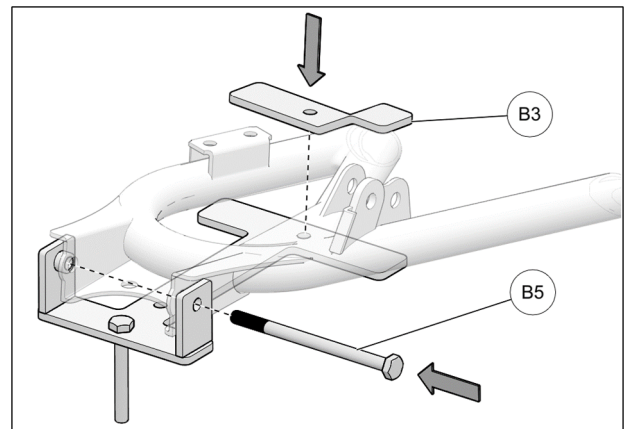

Fig. 8
- Insert the new M10x150mm bolt (**B5**) through the anchor bracket, lower suspension arm and wheel hub. Position the anchor bracket cover (**B3**) over the suspension arm. See Fig. 8